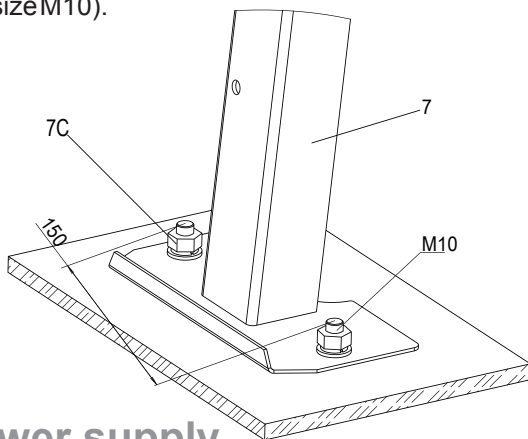

Fig. 11
2. Place the product at the desired position and mark the position of the two holes via mounting holes (7b) (Fig. 11).